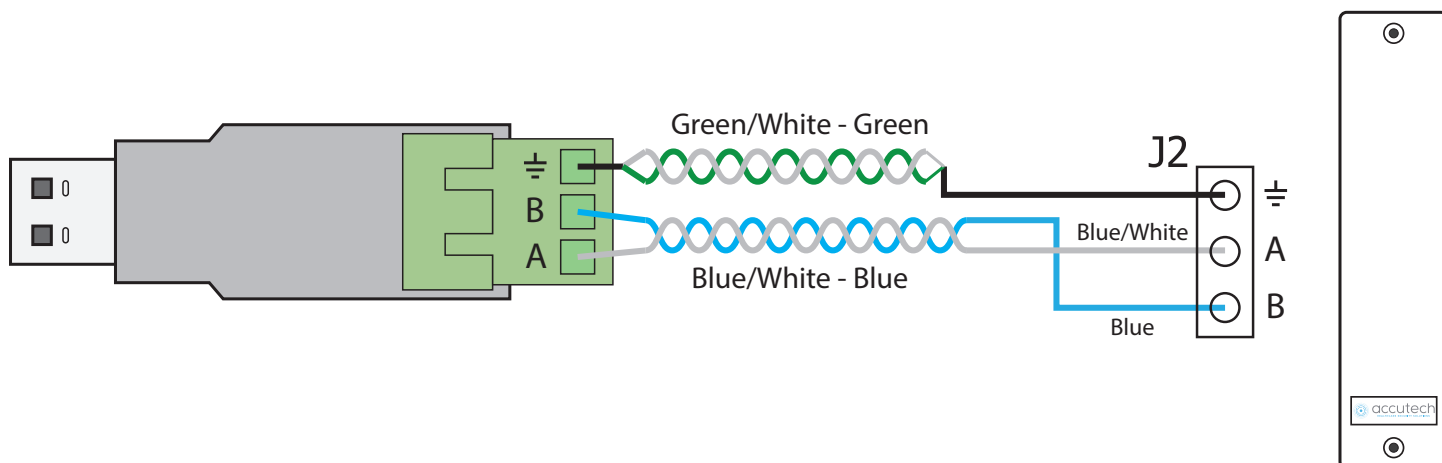

Figure 7.2
- 3) In the Device Manager, click on the triangle next to Ports (COM & LPT). This will open a submenu. Note the assigned USB COM Port Number (Figure 7.2), which will be needed during the software setup.